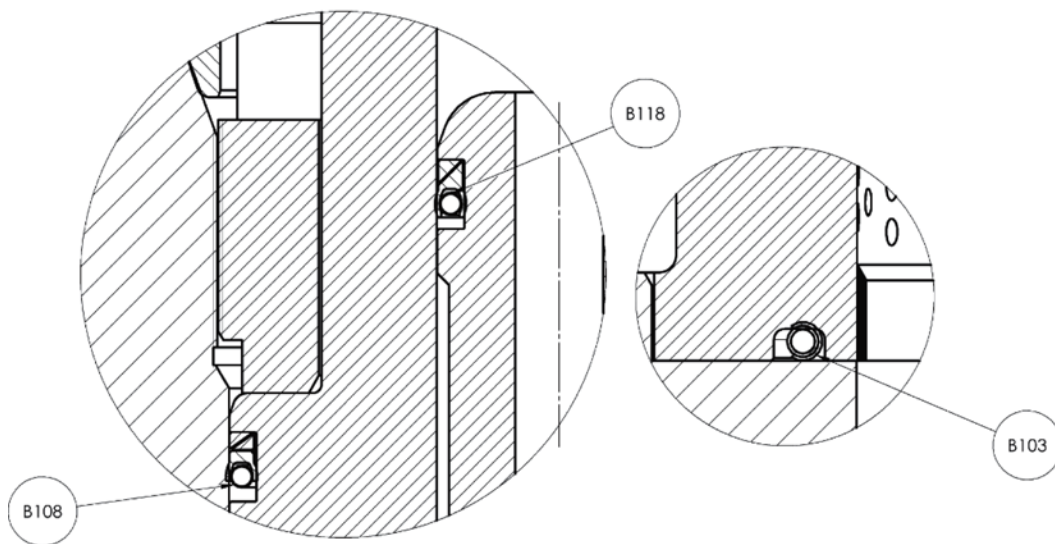

Figure 7 - Flow To Close Seals and Gasket Mounting
2. Place the ring over the conical top of the plug so that the lips of the ring face to the pressure (see Figures 7 and 8).